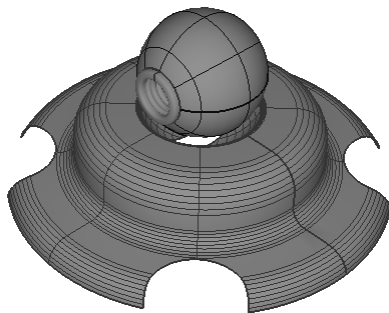

Figure 7-71 Model after tuning the display of the base feature on
2. Choose the **Visible** option from the layer flyout; the visibility of the trimmed base feature assigned to the Base Feature layer is turned on. The model, after turning the display of the base feature on is shown in Figure 7-71.